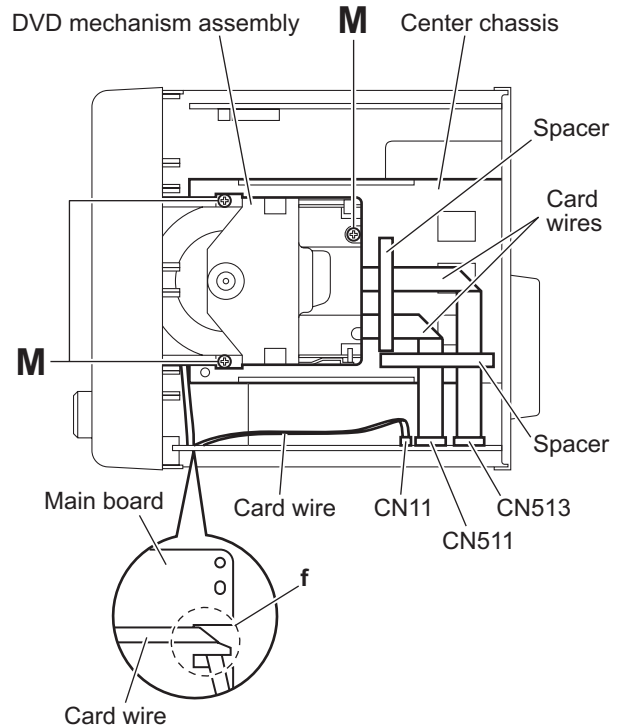

Fig.12
3.1.6 Removing the DVD mechanism assembly (See Figs.12 and 13)
- (1) From the top side of the main body, remove the three screws **M** attaching the DVD mechanism assembly on the center chassis. (See Fig.12.)
- (2) From the forward side of the main board, disconnect the card wires from the connectors (CN11, CN511, CN513). (See Fig.12.)
When reassembly, pass the card wire through the section **f** of the main board before connecting the card wire to the connector CN11. (See Fig.12.)
- (3) Remove the spacers fixing the card wires. (See Fig.12.)
After connecting the card wires, fix them with the spacers as before. (See Fig.12.)